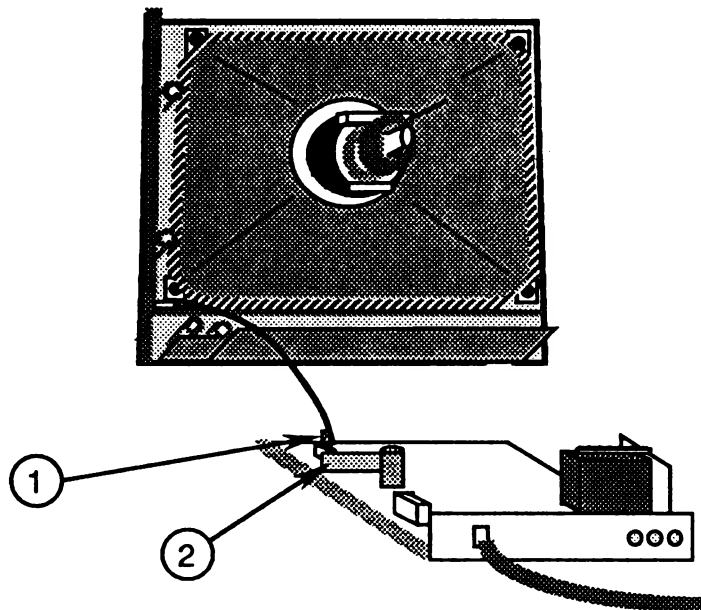

FIGURE 28
10. Reconnect the LED cable (Figure 28, #1) to the small, vertically mounted video PCB attached to the main logic PCB (Figure 28, #2).